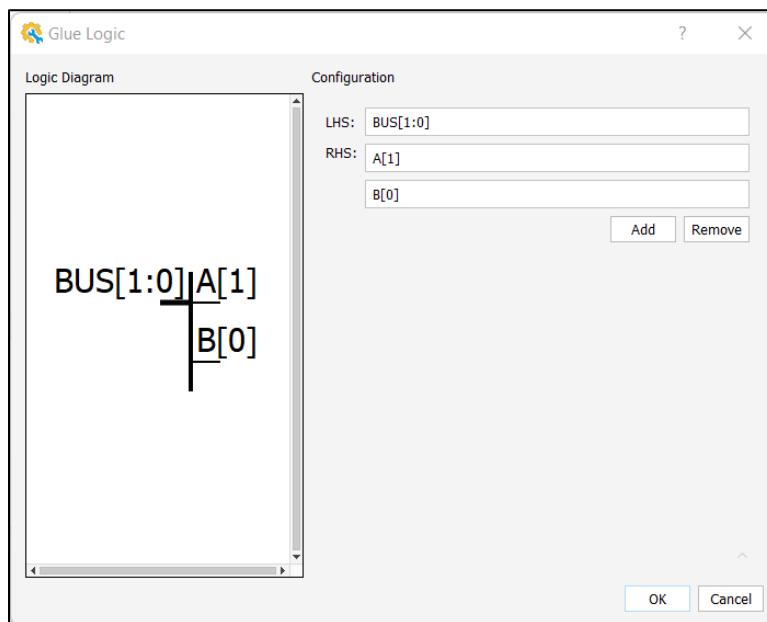

Figure 3.23. Split Glue Logic Configuration
2. Set the **LHS** and **RHS** parameters as shown in Figure 3.23.